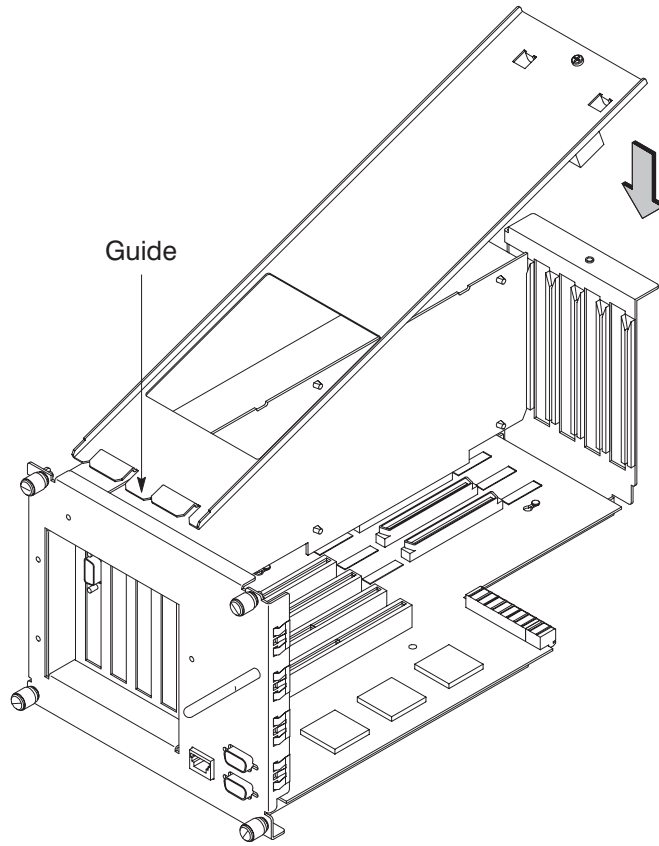

Figure B-41. Replacing PCI/EISA Assembly Cover
8. Insert cover in guide and secure with screw. Refer to Figure B-41.